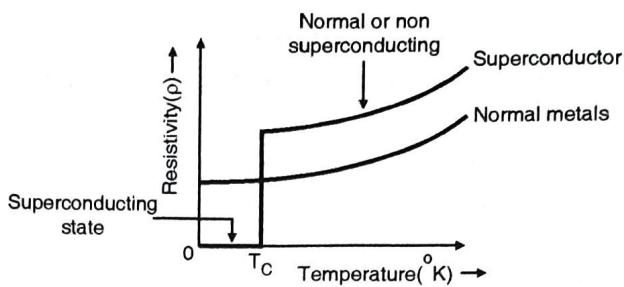

Fig. 5.3.1 : Drop of resistance
- The drop of electrical resistance is shown in Fig. 5.3.1.